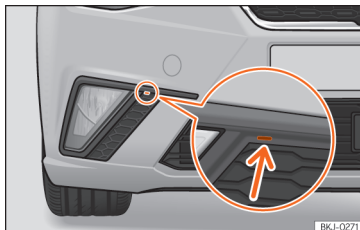

Fig. 52 Front fog light: remove the grille
- Lever the groove with a screwdriver »»» **Fig. 52** (arrow). Next, remove the clips located on the edge of the grille, levering them gently.